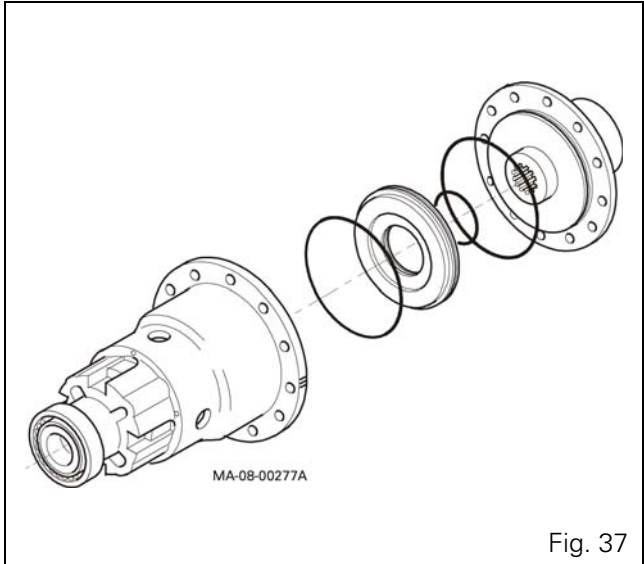

Fig. 37
42. Fit new O-rings in the housings provided on the piston and on the differential cover. Introduce the piston and fit the cover in the differential housing (Fig. 37).